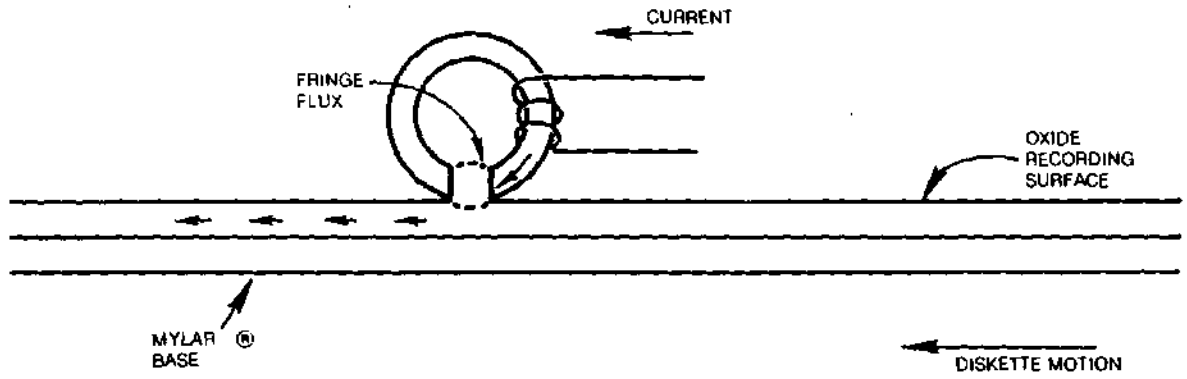

FIGURE 27. BASIC R/W HEAD
**1.4.2** The read/write heads are similar to a ring with a gap and a coil wound some point on the ring. When current flows through the coil, the flux induced in the ring fringes at the gap. As the diskette recording surface passes by the gap, the fringe flux magnetizes the surface in a horizontal direction. See Figure 27.